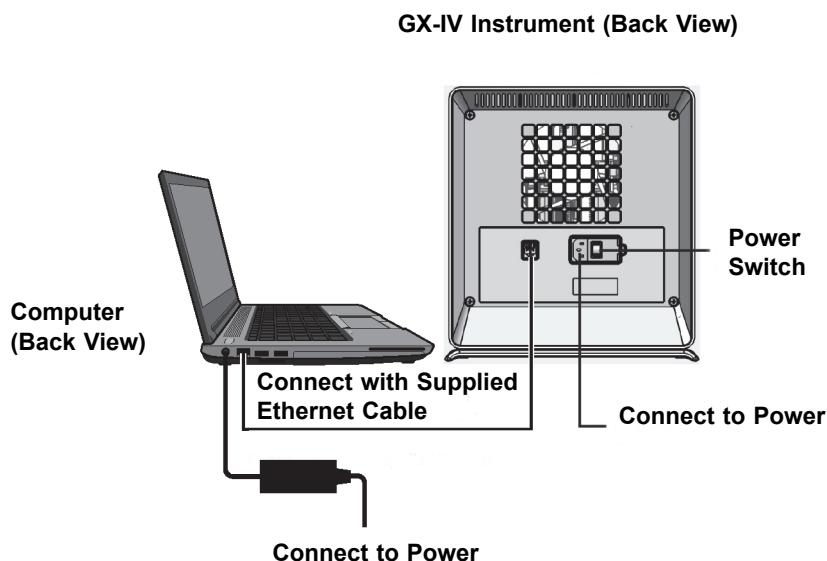

Figure 2-1. Connecting the GX-IV Instrument to the Laptop Computer
3. Connect one end of the supplied Ethernet cable to the network port on the back side of the computer (depending on the GeneXpert model, see Figure 2-1 for a laptop computer system). A label indicates that the port is for use with the GeneXpert instrument.
4. Connect the other end of the Ethernet cable to the network port on the lower back panel of the instrument (see Figure 2-1 for laptop computer systems).